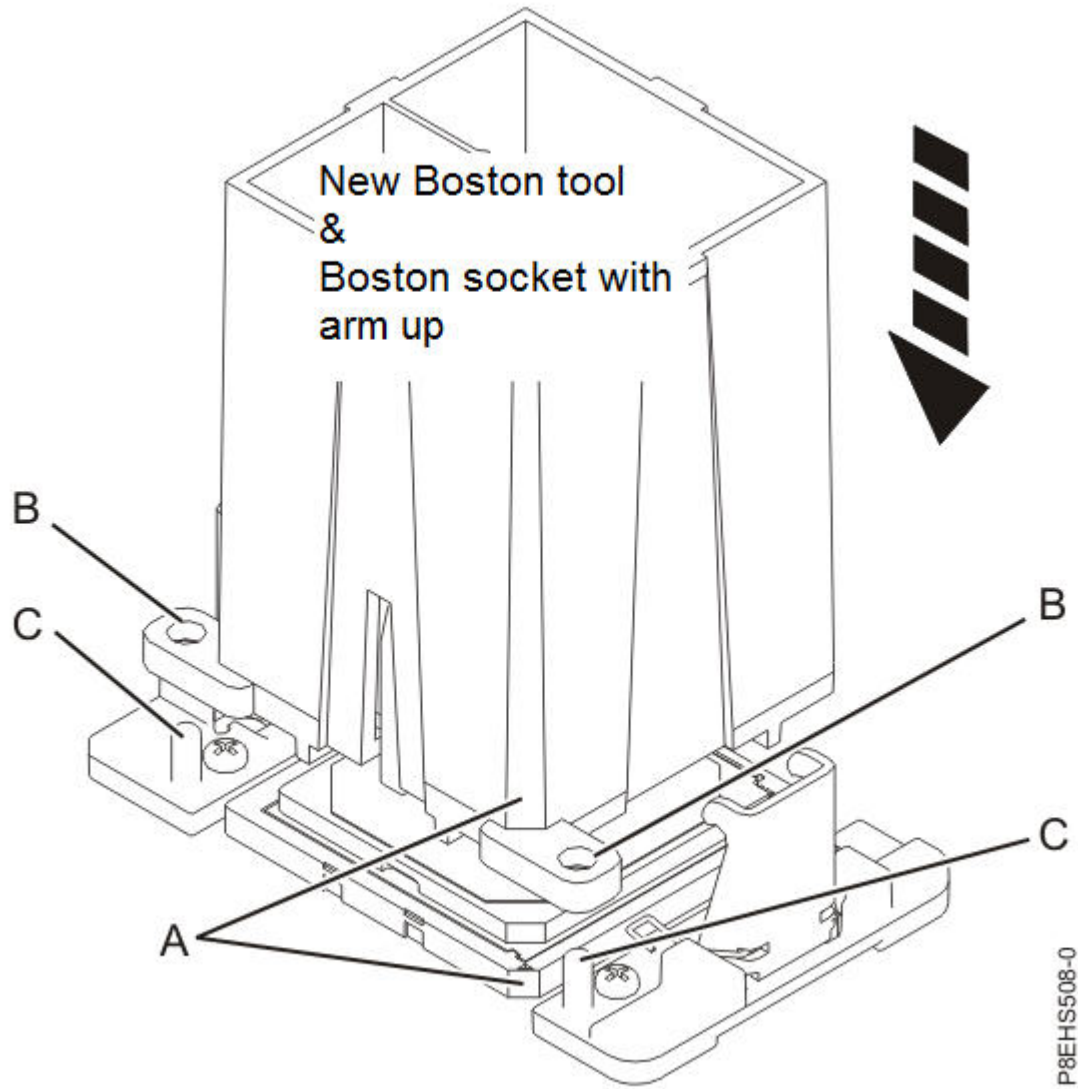

Figure 54. Installing the system processor module
10. Lower the tool and system processor module onto the socket. Align the beveled corner (A) of the tool with the beveled corner on the socket as shown in Figure 54 on page 47. Ensure that the two guide pins (C) are inserted into the alignment holes (B) on each side of the tool. Use care to lower the tool evenly without tilting the tool. Do not attempt to slide the tool and the system processor module in any direction while the system processor module is touching the socket. If the tool and the system processor module are not aligned with the guide pins, lift the tool and the system